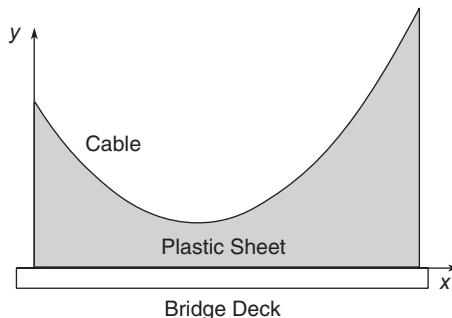

Figure P29
29. The shape of a cable hanging with no load other than its own weight is a *catenary* curve. A particular bridge cable is described by the catenary $y(x) = 10 \cosh[(x - 20)/10]$ for $0 \leq x \leq 50$, where x and y are the horizontal and vertical coordinates measured in feet. (See Figure P29.) It is desired to hang plastic sheeting from the cable to protect passersby while